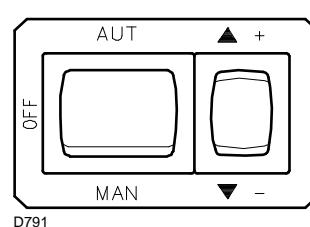
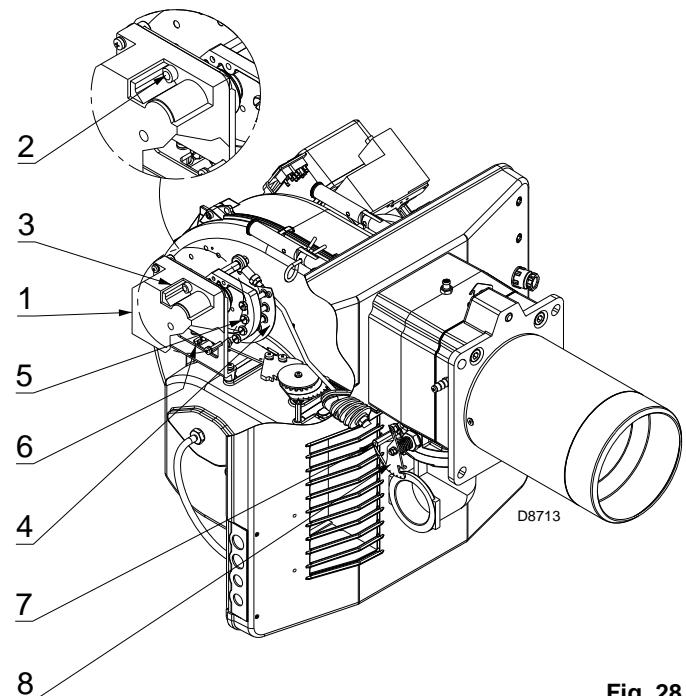
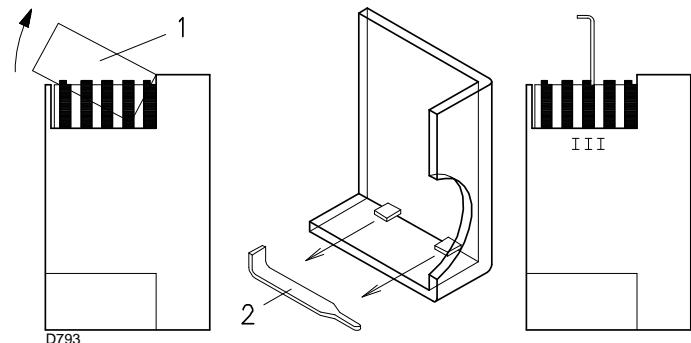

Fig. 27
Fig. 28
Fig. 29
Close the thermostats/pressure switches and turn the switch of Fig. 27 to position "MAN".
Now press the button 2)(Fig. 27) "output increase", and keep it pressed until the servomotor has opened the air damper and the gas butterfly valve at 90° .
Progressively adjust the end profile of cam 4)(Fig. 28) by turning the cam adjustment screws as they are visible through the access opening 6 (Fig. 28).
Press the button 2 (Fig. 27) "output reduction", and keep it pressed until the servomotor has closed the air damper and the gas butterfly valve at 15° (adjustment made in the factory).
- If it is necessary to reduce it, reduce slightly the angle of cam III (Fig. 29) with small, regular movements, i.e. bring it from an angle of 15° to 13° - 11°....
- If it is necessary to increase it, press slightly the button "output increase" 2)(Fig. 27) (open by 10-15° the gas butterfly valve), increase the cam III angle (Fig. 29) with small, regular movements, i.e. bring it from an angle of 15° a 17° - 19°....
If it is necessary to adjust cam III, remove the cover 1)(Fig. 29), inserted with a trigger catch, as indicated in Fig. 29, extract the special key 2)(Fig. 29) from inside, and insert it in the notch of cam III.
Progressively adjust the end profile of cam 4)(Fig. 28) by turning the cam adjustment screws as they are visible through the access opening 6(Fig. 28).
Press the key 2)(Fig. 27) "output increase" a little so that a new screw 5)(Fig. 28) appears in the opening 6)(Fig. 28), adjust it until optimal combustion is obtained. Proceed in the same way with the other screws.
Switch the burner off with switch 1)(Fig. 27), OFF position. Release the adjustable profile cam by setting the servomotor slot 2)(Fig. 28) in a vertical position and check several times that by rotating the cam forwards and backwards by hand, the move-